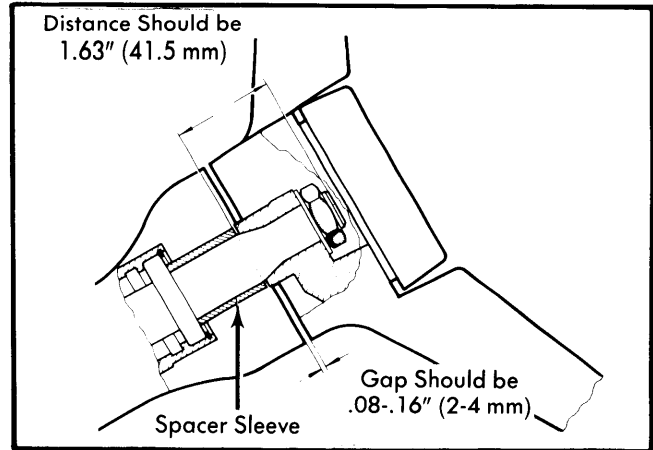

Fig. 1 Steering Wheel-to-Column and Spacer Sleeve Adjustments
**Installation** - To install, reverse removal procedure, noting the following. Press column bearing into column before inserting steering shaft, spring or thrust ring. With steering shaft in column, and column (with shrouds attached) in vehicle, drive spacer sleeve onto steering shaft (Fig. 1). Distance from top of steering shaft to top of spacer sleeve should be 1.63" (41.5 mm). With spacer sleeve installed, place steering wheel onto shaft and measure distance (gap) between steering wheel housing and column shrouds. Gap should be .08-.16" (2-4 mm). If gap is not correct, check shroud installation, column tube installation and spacer sleeve installation.